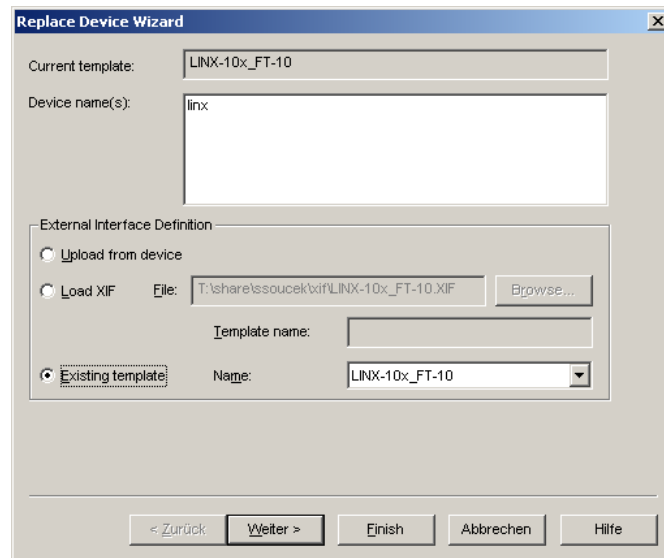

Figure 96: LonMaker replace device wizard.
2. Select **Commissioning** → **Replace....** This opens the LonMaker Replace Device Wizard as shown in Figure 96.